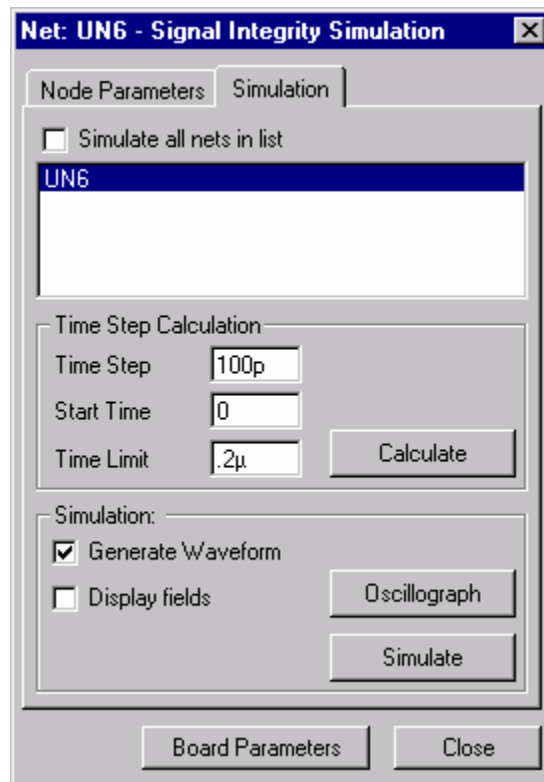

Fig. 9.10
9. To execute simulation, Start time and End time of the simulation as well as the sampling time interval must be specified. This corresponds to the parameters Start time, Time limit and Time step (Refer Fig. 9.10).